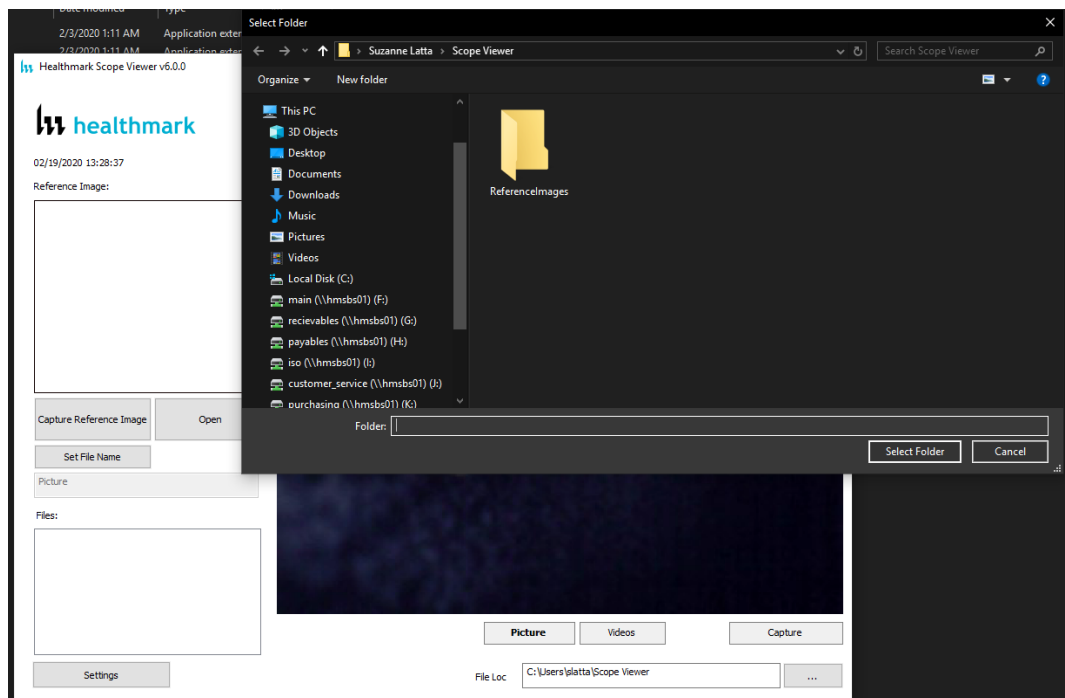

Figure 16
2. Select the folder where you want to save the images. **Fig. 16**